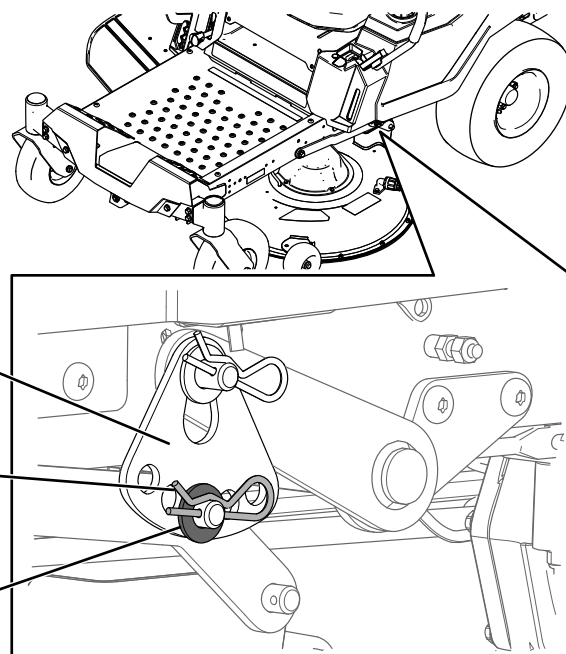

Figure 56
6. Remove the hairpin cotter and washer from the lower lift-arm pin (Figure 56).